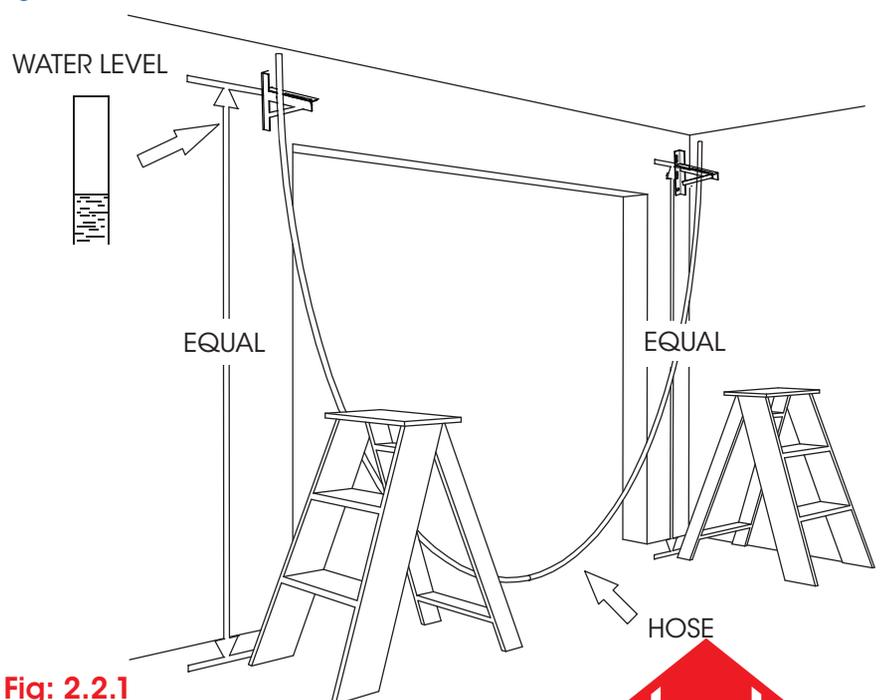

Fig: 2.2.1
- Using a water level mark the position for the second bracket (**Fig 2.2.1**)